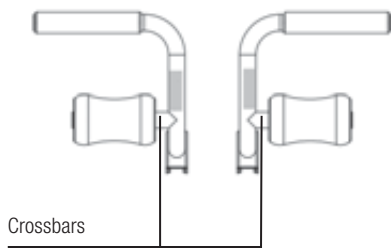

Fig. 1
2. Then attach foam pads on the crossbars as shown in Fig. 1. Let dry before beginning to exercise with the Wing Attachments.
2. Install the (L) Left AbCrunch Board to the (L) Handle so small end of the board is facing the handle grip. Securely attach the AbCrunch Board to Handle using 4 Flanged Hex Bolts and Hex Wrench provided. See Fig. 1 below.
3. Repeat for (R) Right AbCrunch Board and (R) Handle assembly.